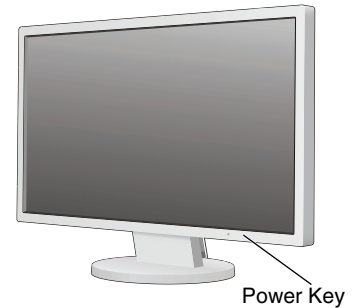

Figure D.1
5. Turn on the monitor with the bottom power key and the computer (**Figure D.1**).